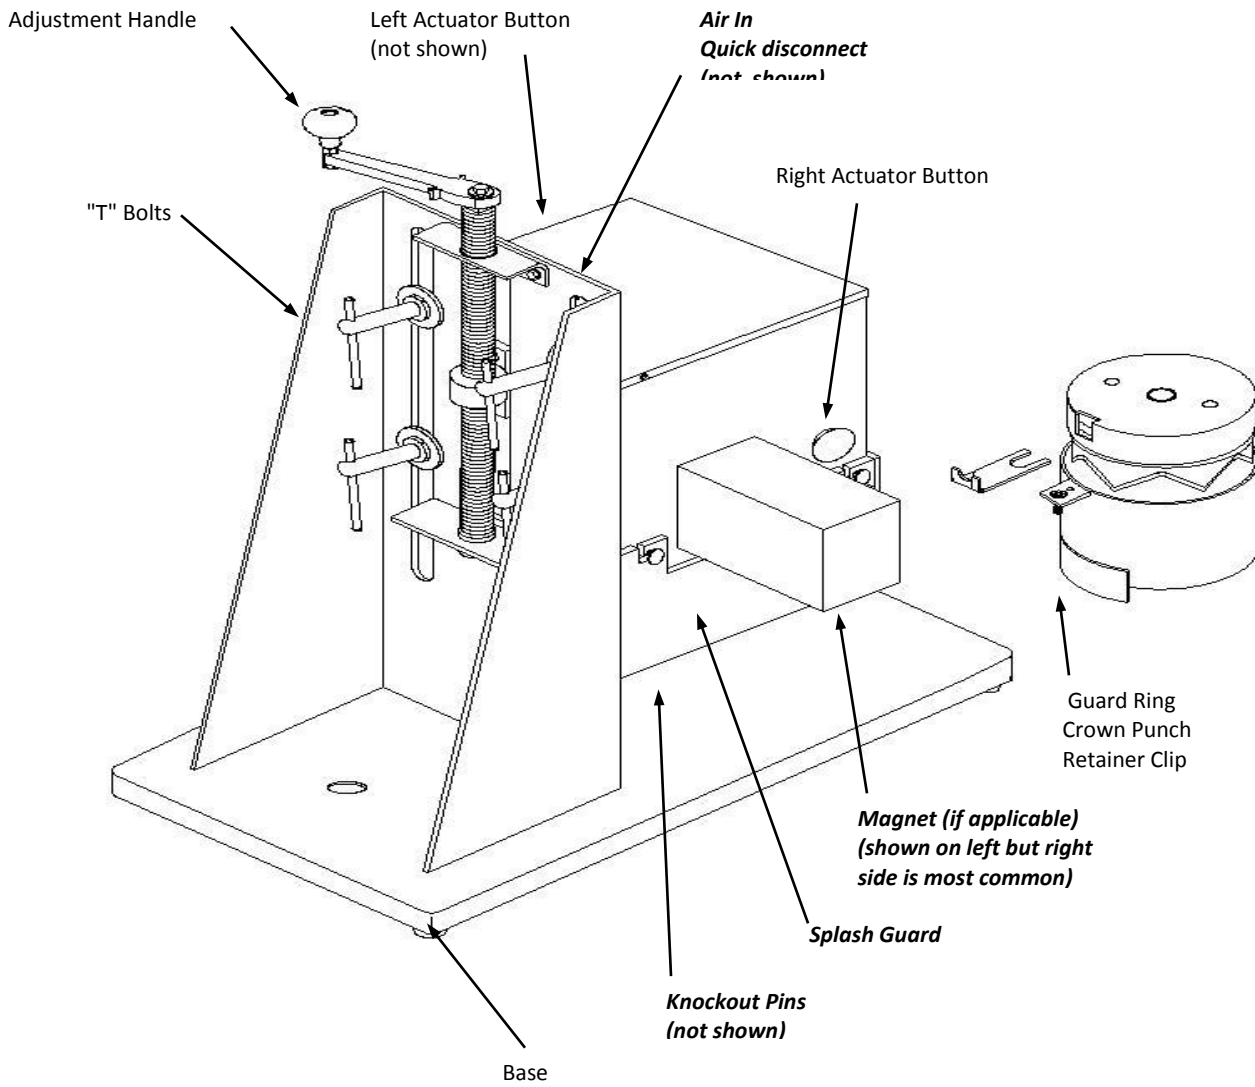

Figure 2
This chapter covers the procedures for setting up your new EDLUND CROWN PUNCH CAN OPENER. You may find it helpful to review the Controls and Features in (Figure 2 on page 7).
NOTE: The model shown in Figure 2 may look slightly different from your machine.
2. Let the guard ring down and set it aside. Now hold up on the crown punch with one hand (being careful of the pointed edges), and with the other hand, pull the retainer clip straight out (Figure 2 on page 7).